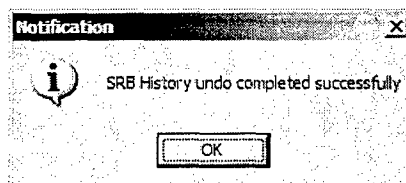

Figure 36. Undo Official Plan Verification Message
3. When the undo is complete you will see the verification message displayed in Figure 36.